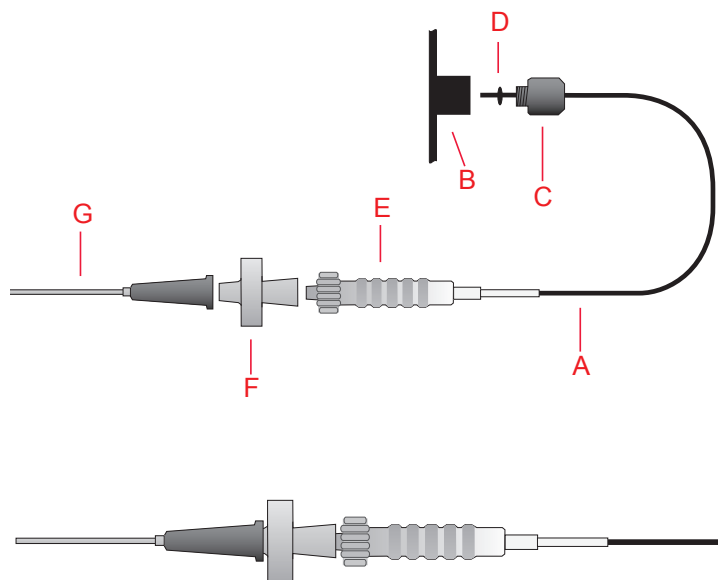

Figure 4-1, Sample Probe Assembly and Probe Pen
2. Attach end of hose tubing to sample gas inlet, located on the side panel (Figure 4-1, G) of the Analyzer with finger screw. **Do not over-tighten.**
5. Attach the probe filter to the probe pen. Attach the probe to the probe filter. Place the probe into the holder located on side of analyzer (Figure 4-1, E). Replace sample hose only when damaged. Conduct the Probe Leak Test after every probe, filter, or probe assembly change, as described in “Performing the Probe Leak Test” on page 50.